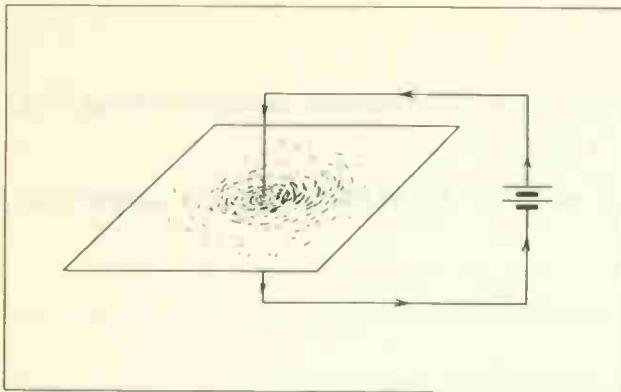

Fig. 1
1. Magnetic lines of force appear around a conductor when electrical current flows in that conductor, Fig. 1.